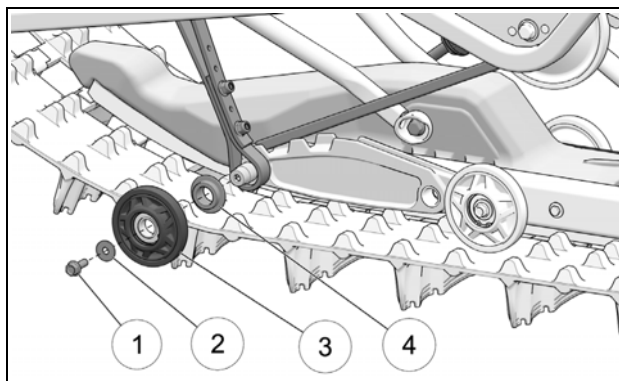

Figure 13
- Loosen and remove assembly bolt (1) and washer (2) from wheel (3) located next to long end of suspension spring. Remove wheel and spacer (4) from wheel shaft. Figure 13.